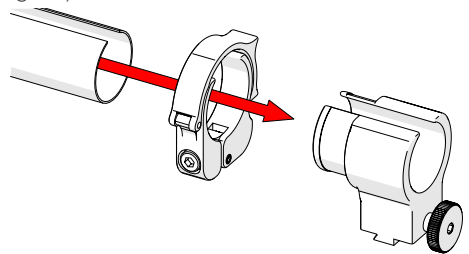

Fig. 77 - Slide tube around mount
2. Slide the clamp around the tube first and then slide the tube around the outside of the cable management dovetail mount (Fig. 77). Align the zipper opening and the cable management dovetail mount opening.